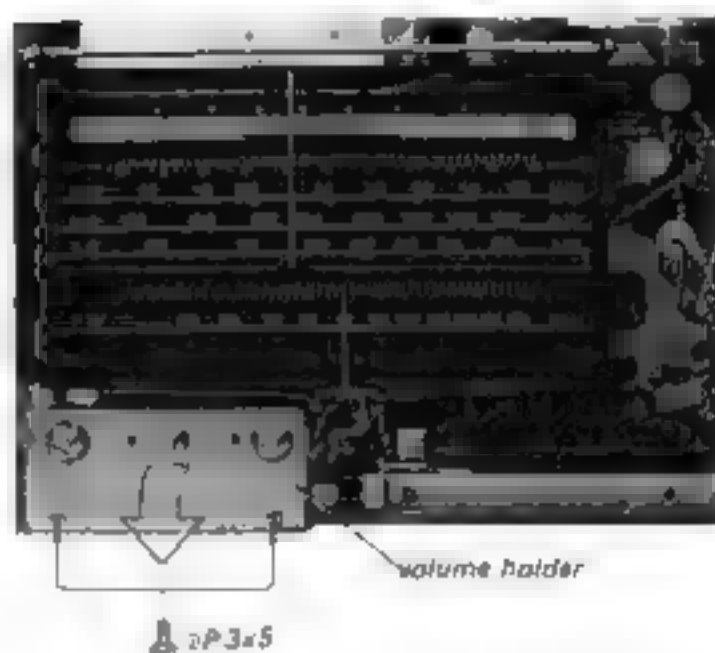

Fig. 2-18
3. Remove the volume holder by removing the two screws as shown in Fig. 2-18.